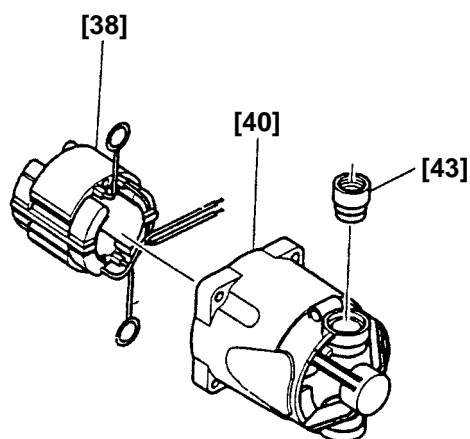

Fig. 10
(8) Removal of Housing (Green) [40] and Brush Holder [43] (Fig. 10)